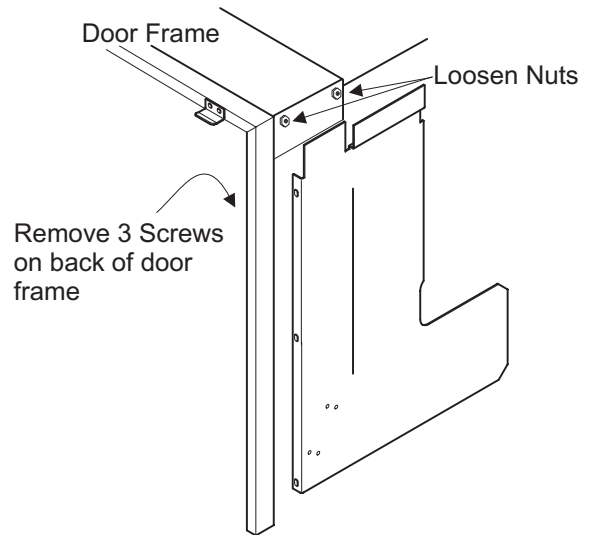

Figure 4
6. Remove the three (3) screws securing the L.H. Side Shield, 4407158, to the door frame and save the screws (figure 4). Also, remove the three (3) screws securing the R.H. Side Shield, 4407159, to the door frame and save the screws.
7. Loosen the two (2) nuts on each side of the Food Module at the top of the Module that help secure the side shields.